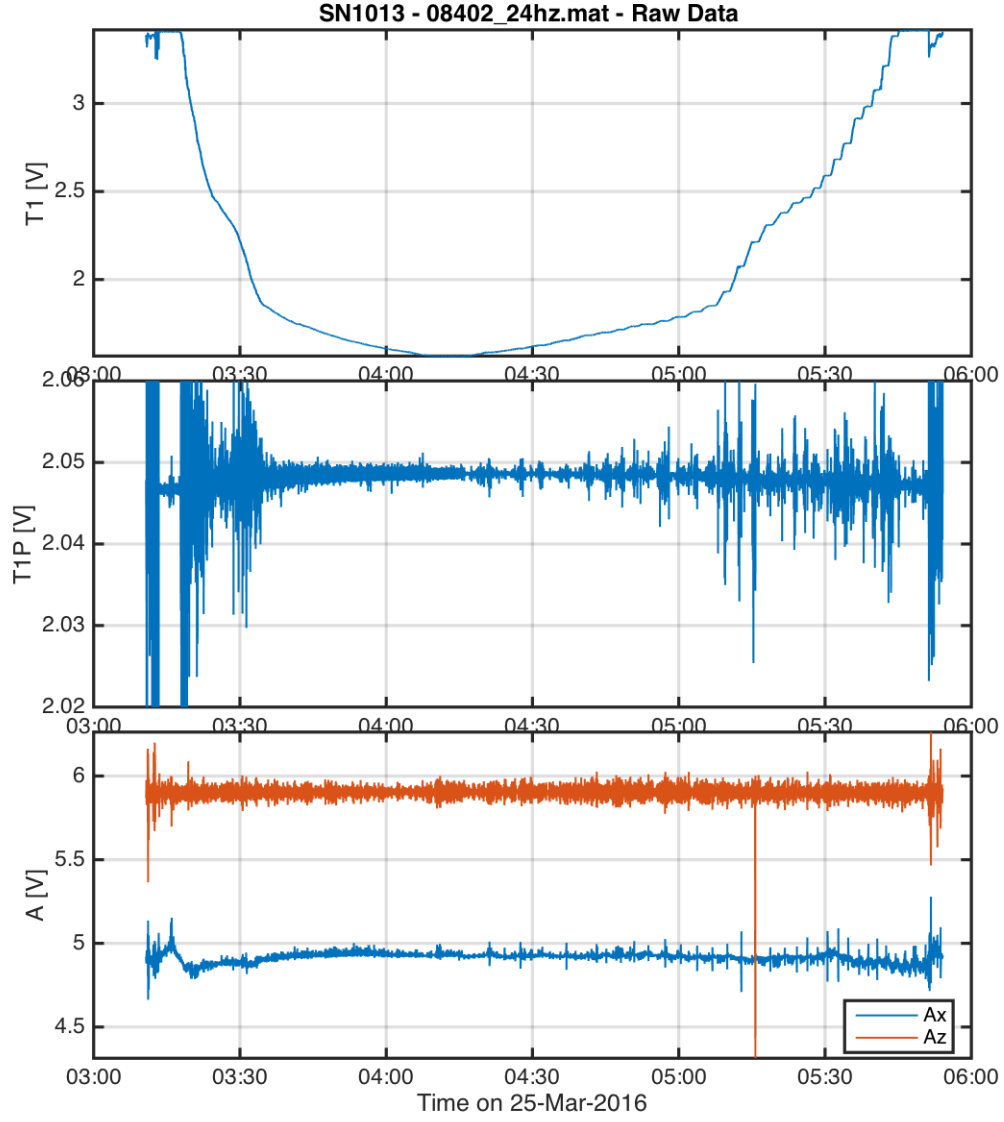

Figure 2: Time-series of raw χ pod data for one cast.
- `cast_001_RawChipodTS` (Figure 2).